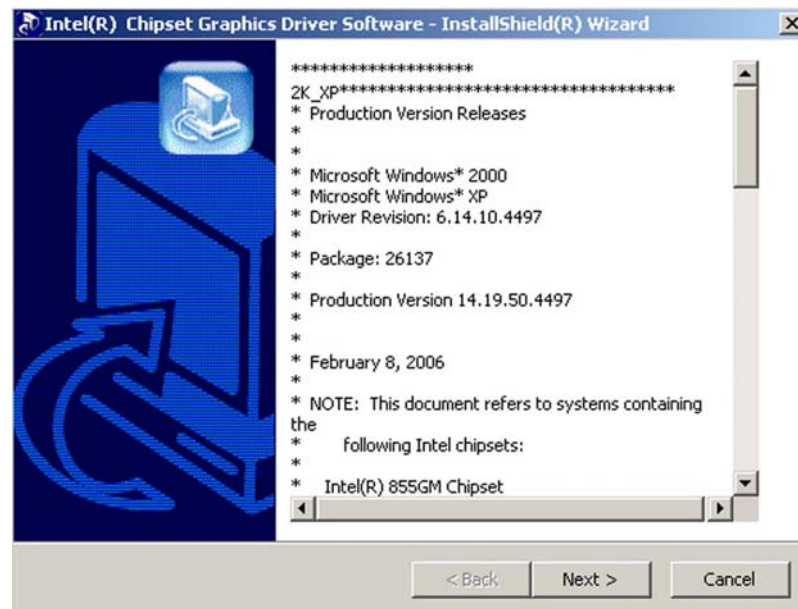

Figure 7-10: GMA Driver Readme File
Step 6: The Readme information file shown in **Figure 7-10** appears.